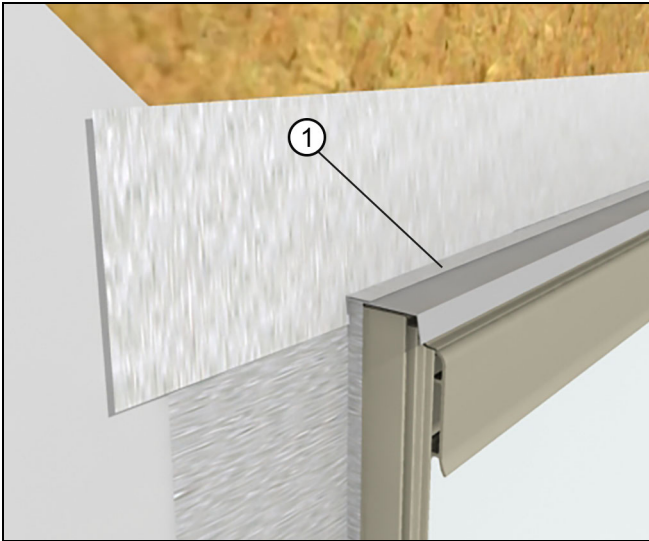

Figure 57
4. Install a layer of flashing over the vertical leg of the rigid head flash and lapped onto the horizontal leg. The flashing should extend past the jamb flashing installed earlier. See Figure 57.